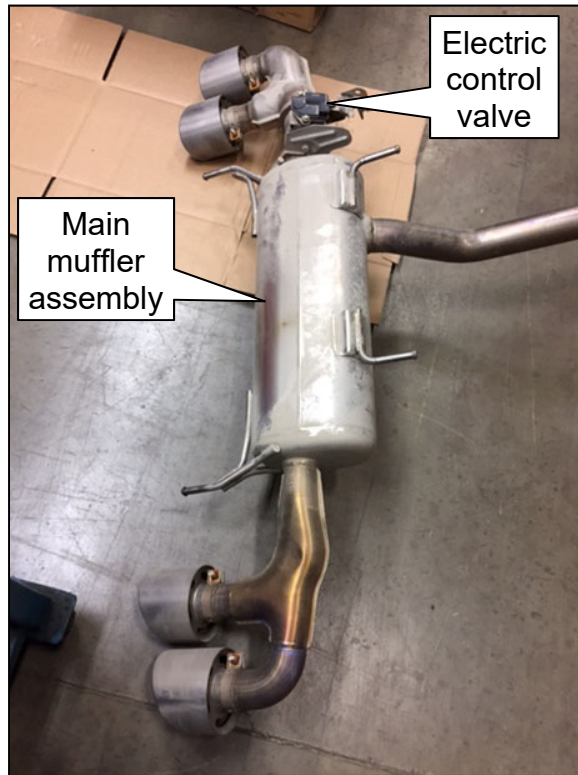

Figure 1
1. Remove the main muffler assembly (see Figure 1).